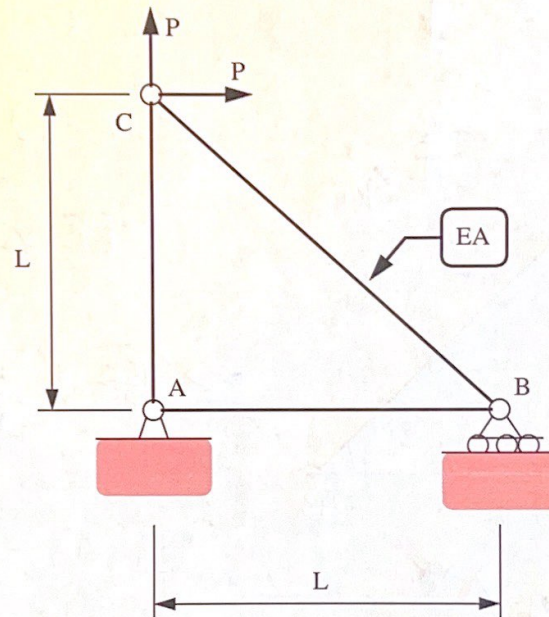

Figure 2: Simple three-bar truss.
**OPTIONAL: Method of Virtual Displacements.** Figure 2 shows a simple three-bar truss. The bar elements have section properties  $EA$  throughout. Horizontal and vertical loads  $P$  are applied at node C.